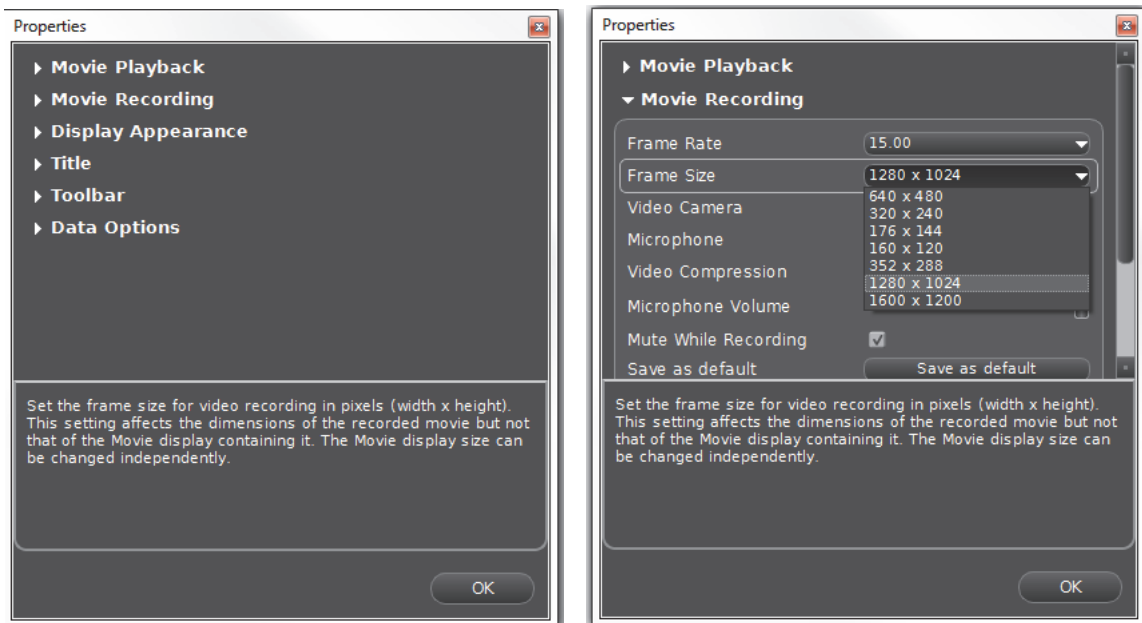

Figure 16: Movie Display Properties
- The interference pattern should appear. See Figure 16.